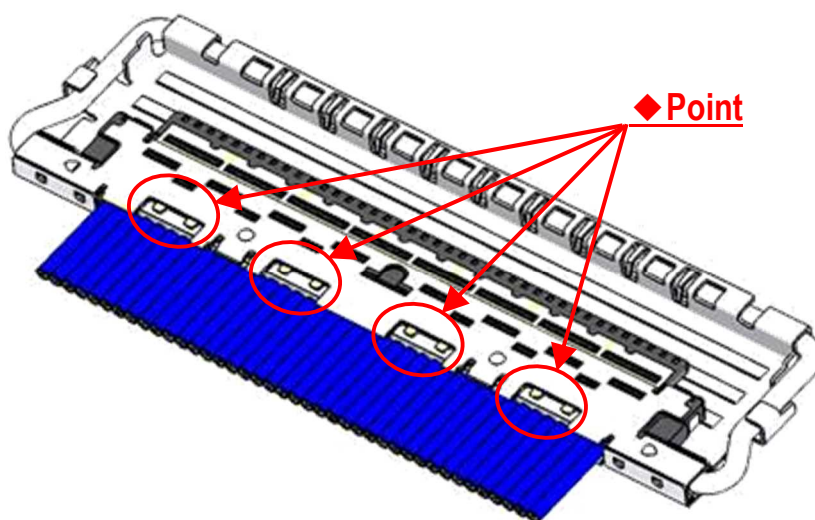

Fig.11 Soldering of SHELL-B and GND BAR
- ⑤ Soldering SHELL-A and SHELL-B with the soldering iron at all designated points is recommended. (Fig.11 ◆ point)